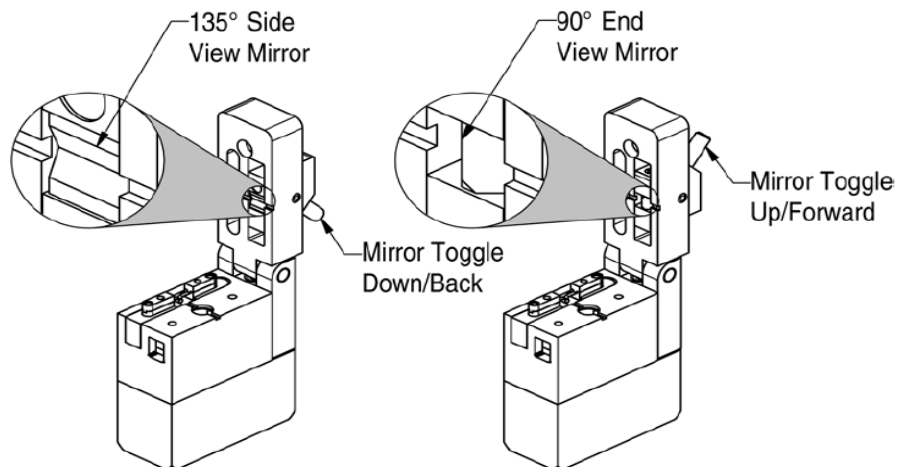

Figure 46 **Mirror Toggle of Splice Top**
- Make sure the mirror toggle is positioned with the 135° side view mirror down as shown in Figure 46 prior to closing the splice top. Scratching of the 90° mirror can result if it is lowered onto the bar fiber in the camera viewing area.